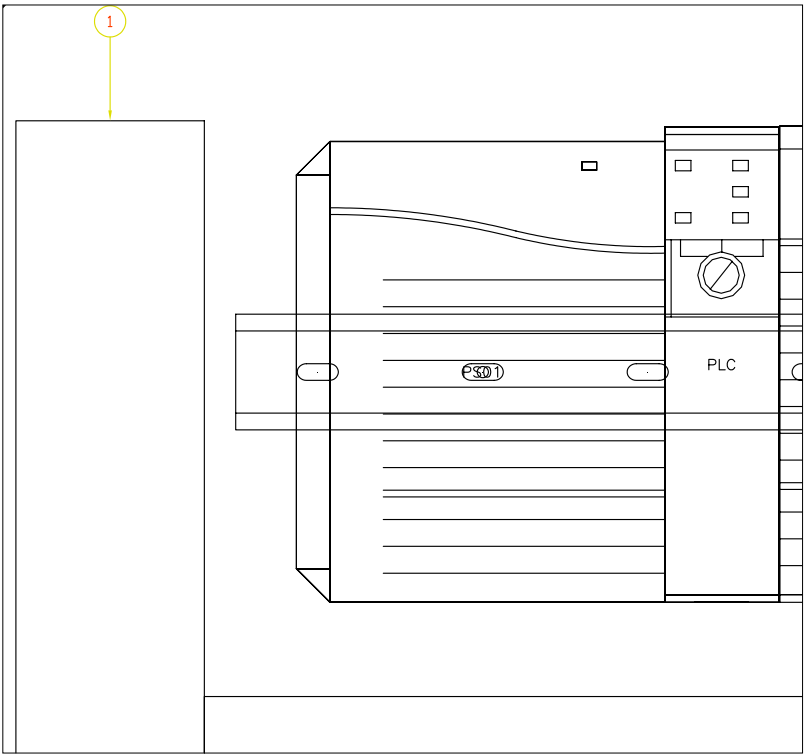

Figure P2-16 The balloon inserted in the **PAN-01** DIN Rail
5. Press ENTER; the balloon is inserted in the **PAN-01** DIN Rail, as shown in Figure P2-16; you are prompted to select the component to add balloon.